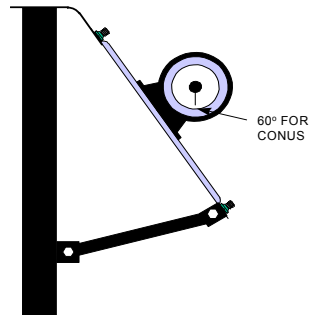

Figure 2-2
- e. Measure the tilt angle of solar panels, as shown in Figure 2-2 when installed on structures, and adjust if necessary.